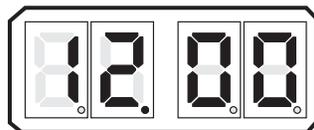

Figure 10-4: Example Display of Applied Battery Voltage
- The displayed value is in “real time” and provides a rough estimate of the DC voltage applied to the Processor. The reading is accurate to within 0.50 DC. Refer to Figure 10-4: Example Display of Applied Battery Voltage
H Pressing the Up or Down (Scroll) Push Button once more, returns you to the Applied Battery Voltage. (Figure 10-4: Example Display of Applied Battery Voltage)